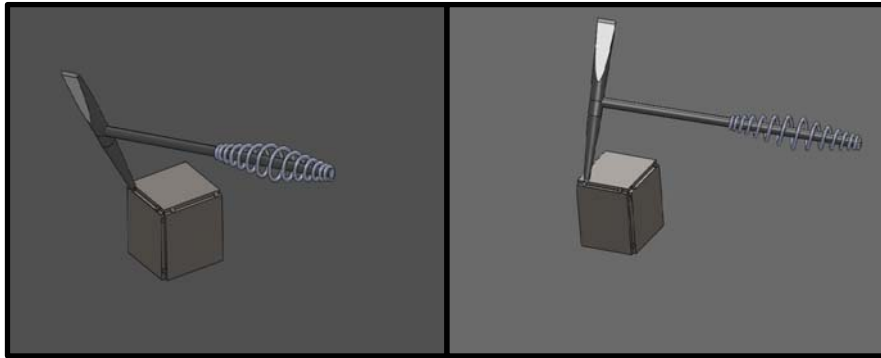

Figure 10: Remove all slag with a slag hammer
- A. Use the **Slag Hammer** to pound off all of the slag that is covering the welds as shown in Figure 10.